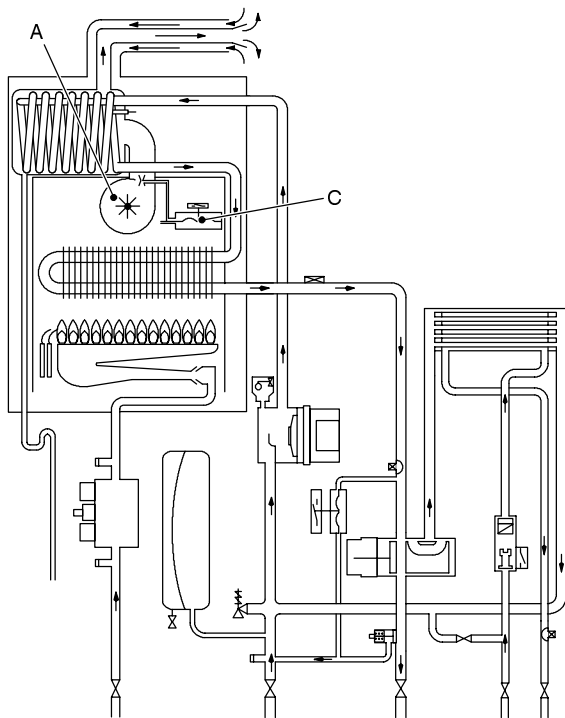
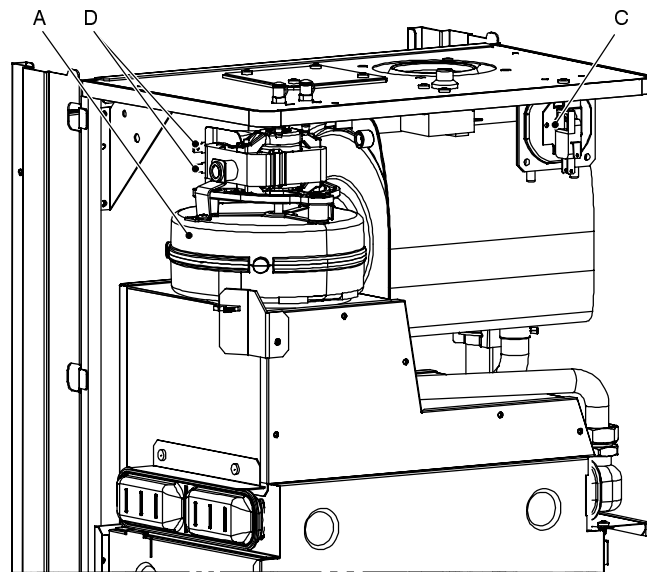
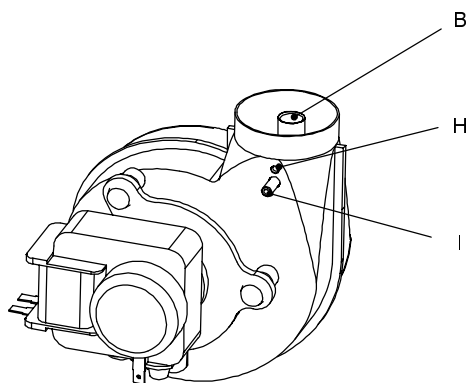

Fig. 67
Fig. 68
Fig. 73
The function of the Fan A (Fig. 67 and Fig. 68) is to force the products of combustion through the condensing heat exchanger to the outside air via the flue system.
Its correct functioning is controlled by means of a system incorporating a built in venturi device (B in Fig. 73) and an Air pressure switch C (Fig. 67 and Fig. 68).
- 2 Disconnect the connectors D (Fig. 68) and measure the electrical resistance of the motor that has to be about:
- 2 Disconnect the connectors *D* and the earth connection *E* (Fig. 68).